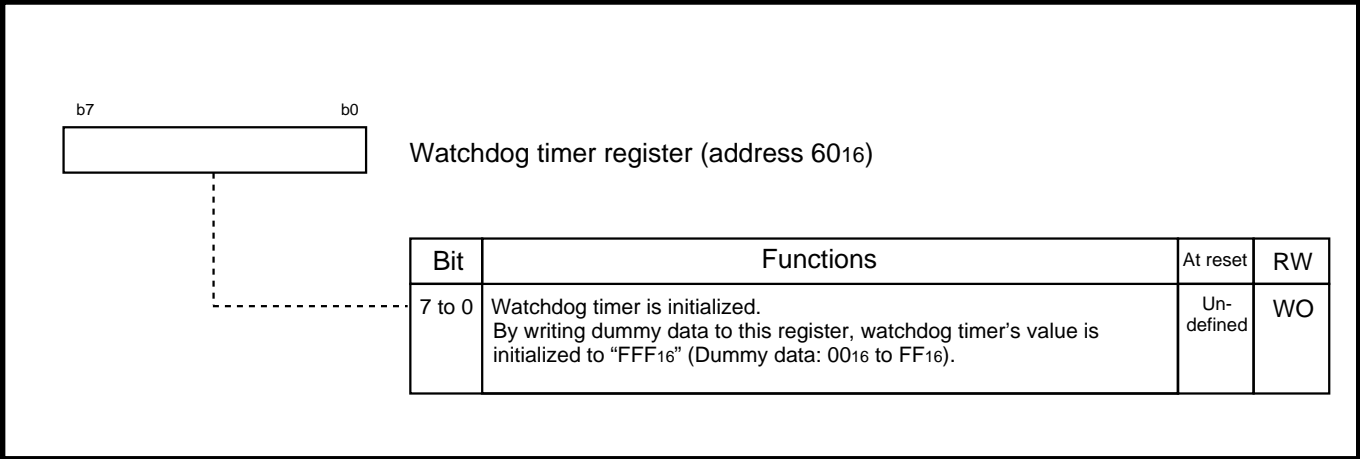

Fig. 10.1.2 Structure of watchdog timer register
- When dummy data is written to the watchdog timer register (Refer to **Figure 10.1.2.**)